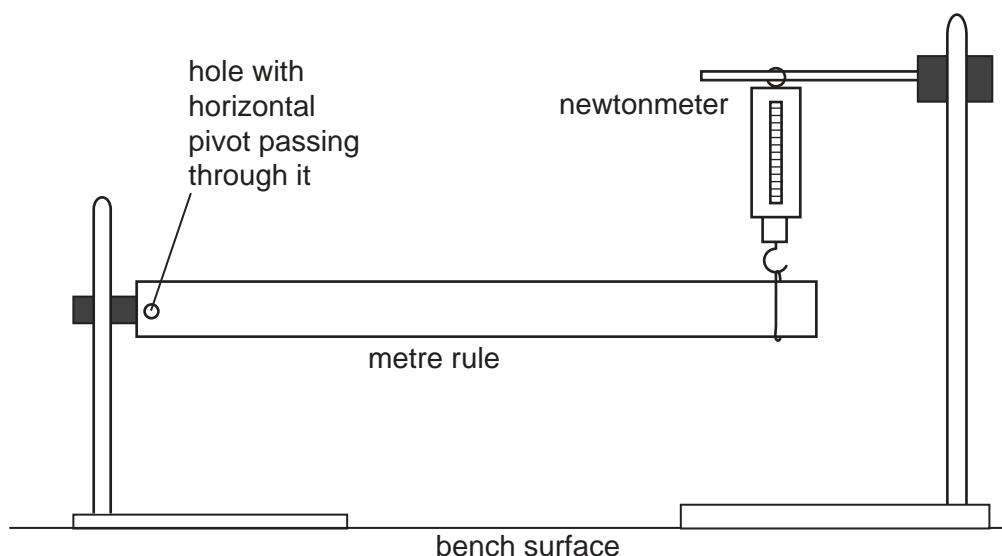

Fig. 4.1
- (ii) The candidate will set up the apparatus as shown in Fig. 4.1.
The candidate is to use the knife-edge to locate the position of the centre of mass of the metre rule. The candidate will then set up the apparatus as shown in Fig. 4.1. For a range of distances from the pivot, the candidates will record the vertical force provided by the newtonmeter when the rule is horizontal.